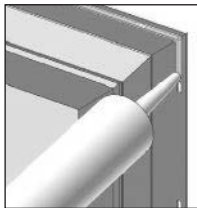

FIG. 10
- b. Bead must run continuously around both sides and across the head, in line with and completely covering the nailing flange holes. (Fig. 10)